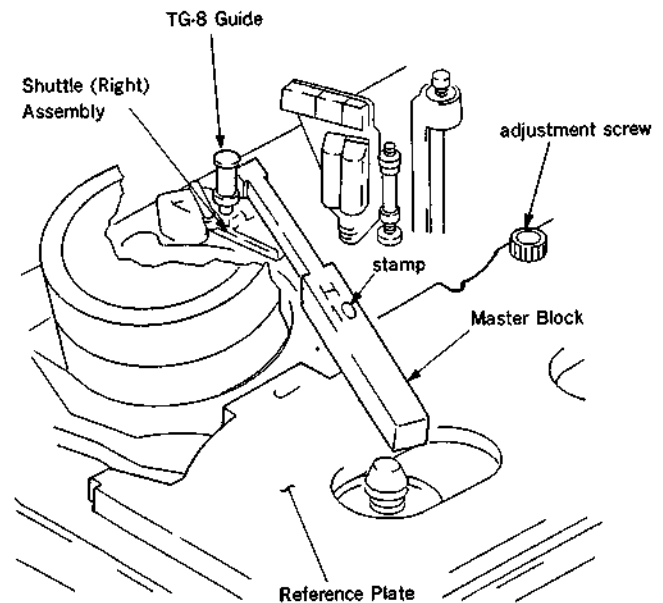

Fig. 5
- (1) Press the PLAY button on the remote controller for the threading completion mode. (Refer to Sec. 4-1-3.)
- (2) Clean the mounting face of the reference plate and the four mounting faces on the chassis with cleaning fluid.
- (3) Install the reference plate on the chassis. (Fig. 5) (If the reference plate moves about when the top of the plate is touched gently manually at a point near where it is installed on the chassis, turn the adjustment screw until the plate no longer moves about.)
- (4) Clean the top of the reference plate and the adjustment face of the master block with cleaning fluid.
- (5) Set the master block with the H10 stamped mark upward, then place it against the TG-8 guide from the direction shown in the figure. (Fig. 5)